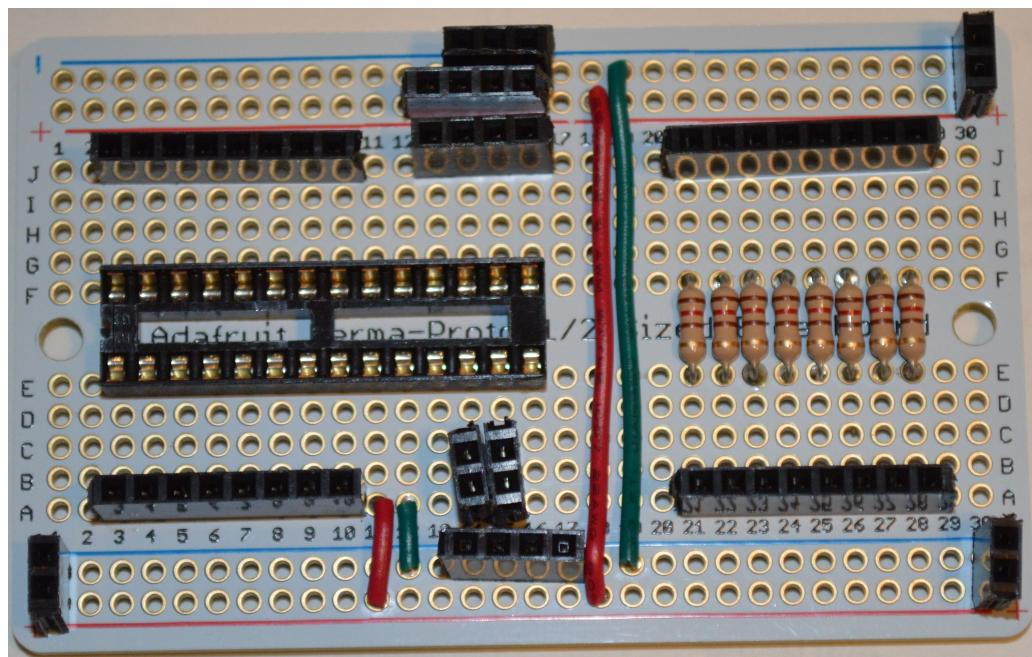

Figure 2.3: GPIO Board with Headers
- Solder in the female header strips. Some of these can be omitted and the wires in the next step soldered in directly, but having these will make reconfiguration easier. See Figure 2.3.